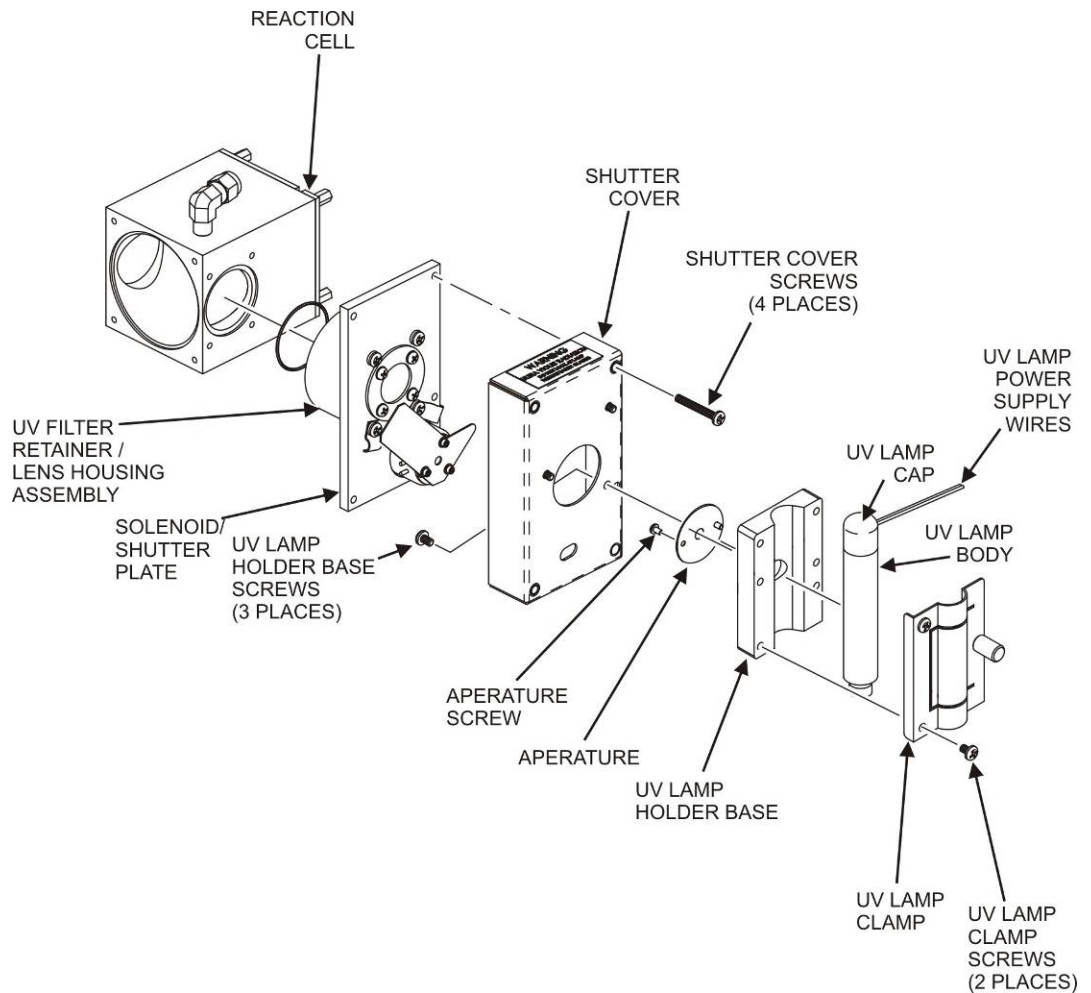
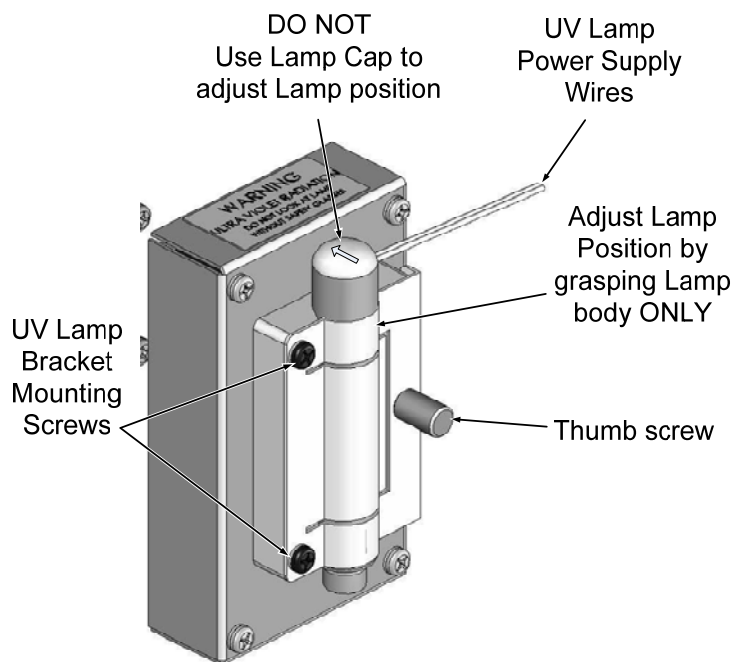

Figure 12-13: Shutter Assembly
Figure 12-14. UV Lamp Adjustment
4. Remove 4 screws from the shutter cover (refer to Figure 12-13) and remove the cover.
2. Slightly loosen the large brass thumbscrew located on the shutter housing (refer to Figure 12-14) so that the lamp can be moved.
DO NOT grasp the UV lamp by its cap when changing its position - always grasp the main body of the lamp (refer to Figure 12-13). Inattention to this detail could twist and potentially disconnect the lamp's power supply wires.
4. Loosen, but do not remove the two UV lamp bracket screws and the large brass thumbscrew located (refer to Figure 12-13 and Figure 12-14) on the shutter housing so that the lamp can be moved.
DO NOT grasp the UV lamp by its cap when changing its position - always grasp the main body of the lamp (refer to Figure 12-13) Inattention to this detail could twist and potentially disconnect the lamp's power supply wires.